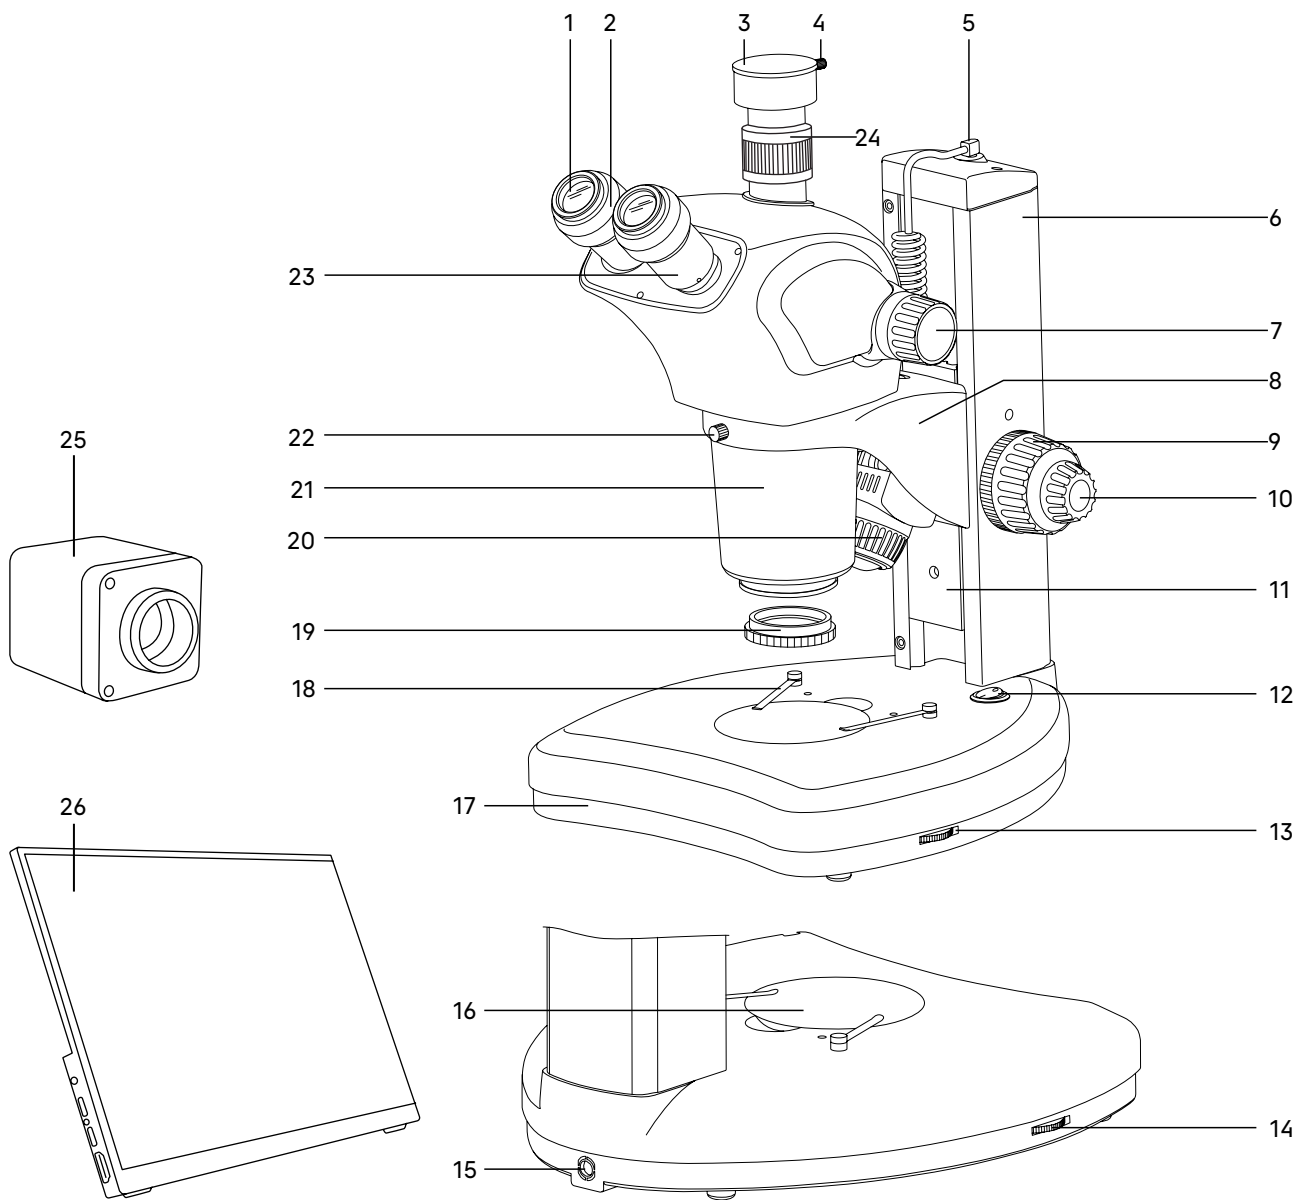

Fig. 1. MAGUS Stereo D9T LCD Microscope
The general view of the microscope is given in Fig. 1.
The stand **6** (Fig.1) is mounted on the base **17** (Fig. 1). The stand is not removable.
Inside the stand is the focusing column **11** (Fig. 1), on which the microscope head mount **8** (Fig. 1) is fixed. On top of the stand is the reflected light illumination socket **5** (Fig. 1).
The base **17** (Fig. 1) houses a power supply unit and a transmitted light LED. The frosted glass plate **16** (Fig. 1) provides light scattering and uniform illumination of the entire surface of the specimen. The switch **12** (Fig. 1) is used to switch the light source on and off.
The brightness of the reflected light illuminator is adjusted using the ring **14** (Fig. 1), transmitted light brightness – using the ring **13** (Fig. 1).
The base also serves as a stage. The specimen is placed on the stage plate **16** (Fig. 1). The stage plate is inserted in the base opening. The diameter of the plate is 90mm.
The specimen can be fixed on the plate by two holders **18** (Fig. 1).
The focusing mechanism **11** (Fig. 1) moves in the stand **6** (Fig. 1), bringing the specimen into focus in accordance with the specimen height and the working distance of the objective.
The microscope head mount **8** (Fig. 1) is secured on the focusing column. The total vertical travel range is 83mm.
The microscope head is inserted in the mount and secured by the fixing screw **22** (Fig. 1). The microscope head can be turned sideways in the mount and fixed in any desired position.
The eyepieces **1** (Fig. 1) are mounted in the eyepiece tubes **23** (Fig. 1) of the microscope head. The tubes are adjusted to the observer's interpupillary distance, ranging from 53 to 75 mm.
A C-mount 1x adapter is installed in the trinocular tube **24** (Fig. 1) of the microscope head to fix the camera. The camera **25** (Fig. 1) is used to transmit the image to a computer screen or monitor/TV.
The zoom objective lens **21** (Fig. 1) has 0.7–6.3x magnification and allows for smooth change of magnification up to 9 times with no loss of quality and maintaining a large working distance of 110mm.
The microscope magnification is changed by rotating the knob **7** (Fig. 1).
The 10x eyepieces have a linear field of view of 22mm (WF 10x/22). Each eyepiece has a diopter adjustment **2** (Fig. 1). The eyepiece tubes have a secure eyepiece mount design that prevents the eyepieces from accidentally falling out when the microscope is moved. The eyepieces are fixed in the tubes by screws.
The oblique illuminator **20** (Fig. 1) is fixed in the microscope head mount. The illuminator cord is plugged in the connector **5** (Fig. 1).
- Insert the stage plate **16** (Fig. 1). To observe transparent objects, use a glass plate. To observe opaque objects, use a black-and-white plate. To increase contrast, the white side of the plate is used for dark-colored objects, while the black side is for light-colored objects.
- Install the specimen holders **18** (Fig. 1).
- Install the microscope head in the ring of the mount **8** (Fig. 1). Secure the microscope head by the fixing screw **22** (Fig. 1). Do not overtighten the screw.
- Set the brightness adjustment rings **13** and **14** (Fig. 1) to the minimum position.
- Plug the power cord to the connector **15** (Fig. 1). Plug the power cord into an AC outlet.
Set the minimum magnification of the 0.75x objective by rotating the zoom knob 7 (Fig. 1). The zoom knobs are on both sides of the microscope head.
Use the eyepiece diopter adjustment to compensate for the observer's ametropia. Start by setting the diopter adjustment on both eyepieces to the zero. To do this, rotate the ring 2 (Fig. 1) to adjust "0" to the indicator "I".
While looking through the right eyepiece (with your left eye closed), bring the specimen into focus. While looking through the left eyepiece (with your right eye closed) and not touching the focusing knobs, bring the specimen into sharp focus in the left eyepiece by rotating the diopter adjustment ring 2 (Fig. 1).